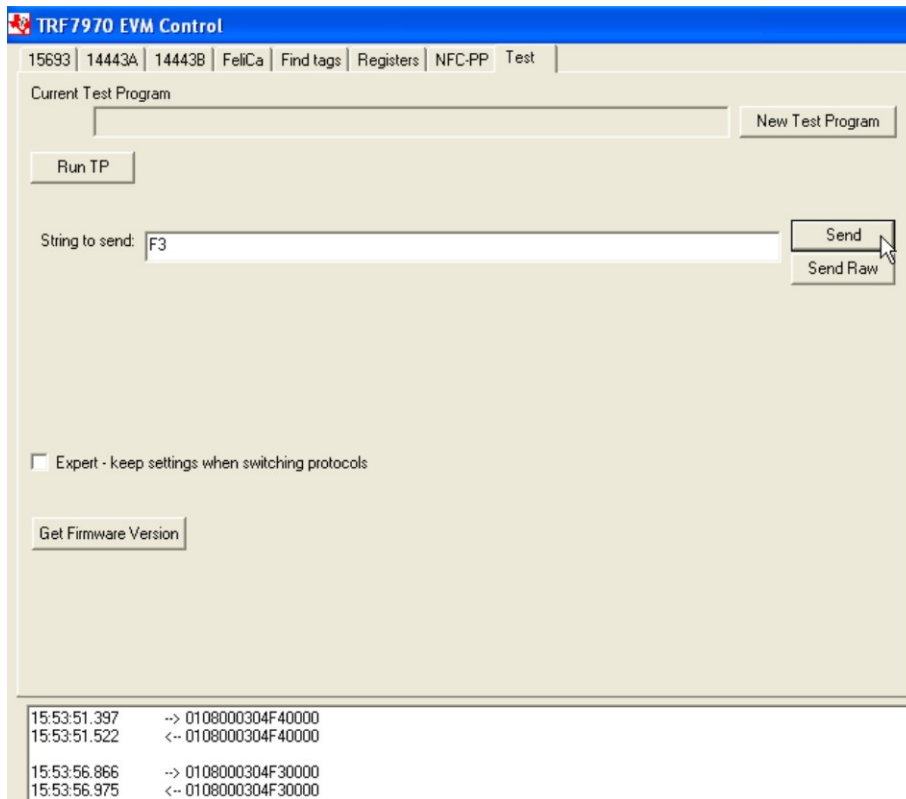

Figure 41. Sending GPIO Control Command
2. To turn on or off the MSP430F2370 GPIO-controlled LEDs on the EVM. These could also be used in the development environment for other functions such as turning on or off other peripherals, for digital control of reed relays and switches, etc. (see Table 8 and Figure 41).